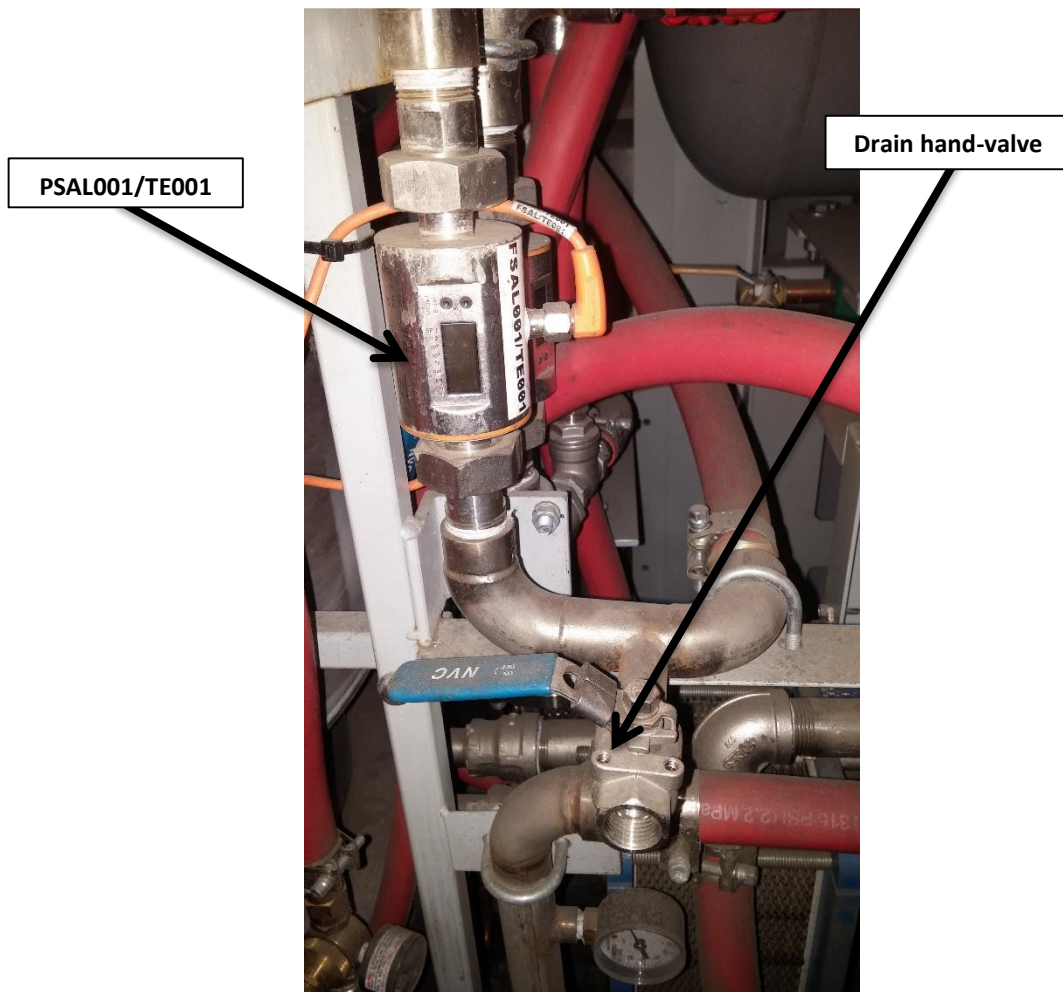

Figure 8: Closed loop cooling drain hand-valve
1. With the system **OFF** locate the flowmeter PSAL001/TE001 in the water skid, and follow the piping until you find a hand-valve with an outlet in the same loop (See **Figure 8**).